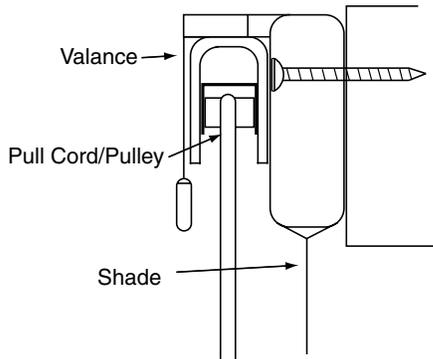

Figure 1
- ① For face wall mounting, use appropriate fasteners through 2½" x 5/8" maple top slat (see Fig. 1). Draper, Inc., will pre-drill 5/16" holes on approximately 30" centers.